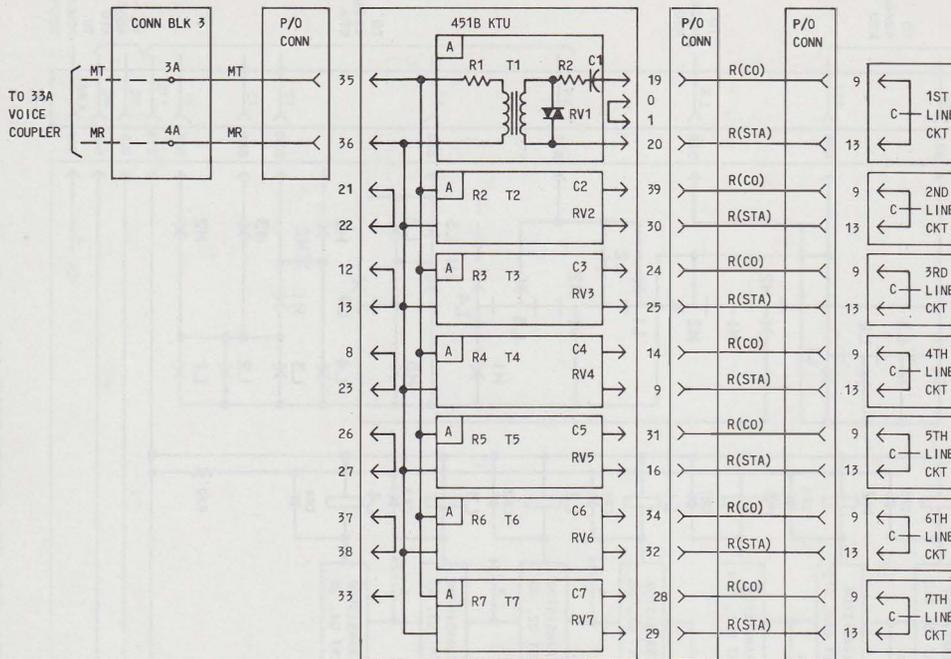

Fig. 15—Condensed Functional Schematic of 451B KTU (Music-On-Hold Circuit)
2.21 The 451-type KTU (Fig. 15) is a 4-inch unit that is used with an externally mounted 33A voice coupler to connect a customer-provided source of music to a maximum of seven CO/PBX lines placed on hold.